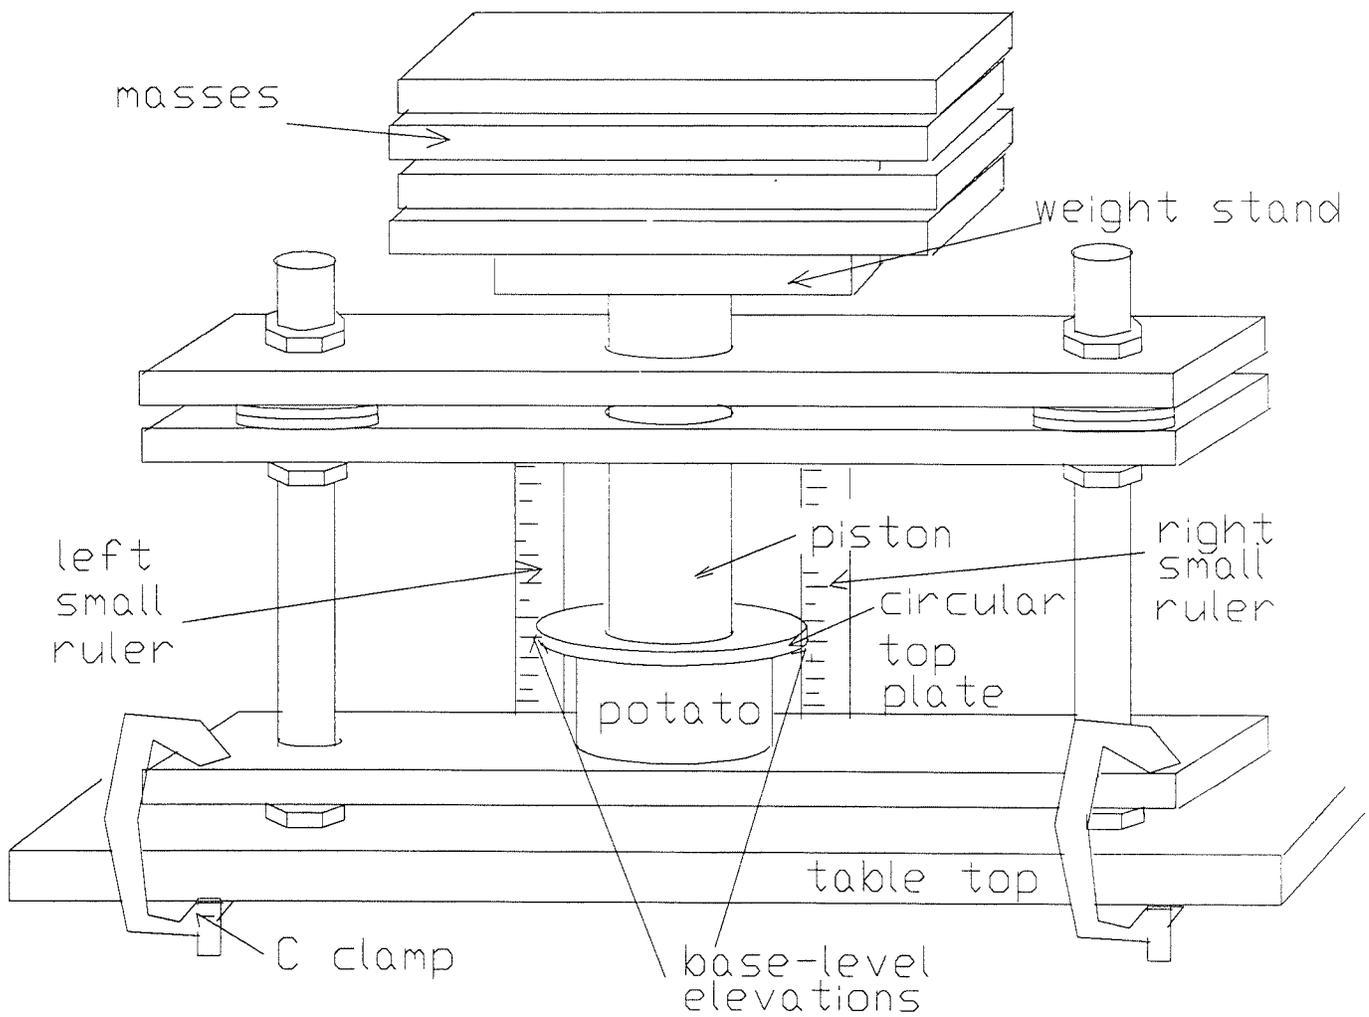

Figure 3. Compression tester used to test the compressive strength of potatoes.
12. Assemble the framework using Fig. 3 as a guide. Put the two 1.588 cm (5/8 in.) bolts through the 30.48 cm (12 in.) piece with only two holes and install one 1.588 cm (5/8 in.) nut on each bolt, leaving 9.525 cm (3 3/4 in.) between the nut and the head of the bolt. Install one of the remaining 30.48 cm (12 in.) pieces through the outside holes over the bolts and place two washers on each bolt. Place the remaining 30.48 cm (12 in.) piece on the bolts, lock the assembly together with one nut on each bolt, and tighten all four nuts. Insert the shaft with the attached plate through the 2.54 cm (1 in.) hole in the center of the framework.